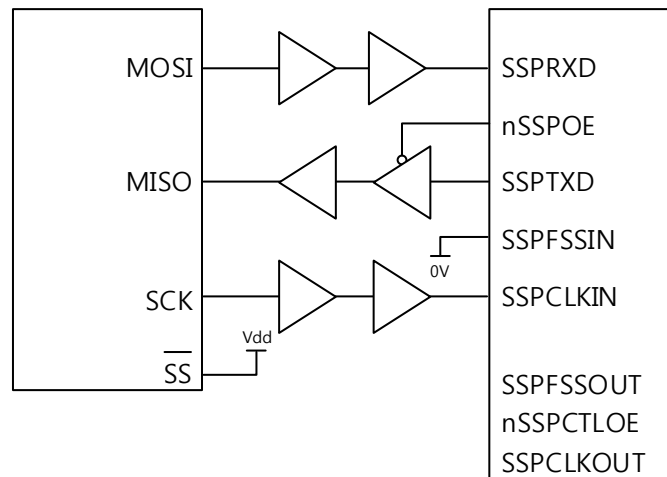

Figure 78. SPI master coupled to a PrimeCell SSP slave
Figure 78 shows a Motorola SPI configured as a master and interfaced to an instance of a PrimeCell SSP (PL022) configured as a slave. In this case, the slave Select Signal (SS) is permanently tied HIGH to configure it as a master. The master can broadcast to the slave through the master SPI MOSI line. In response, the slave drives its nSSPOE signal LOW.